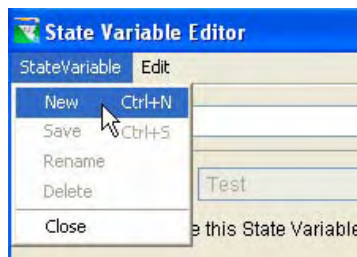

Figure 11.120 Create New State Variable
- Select **New** from the **StateVariable** menu (Figure 11.120).